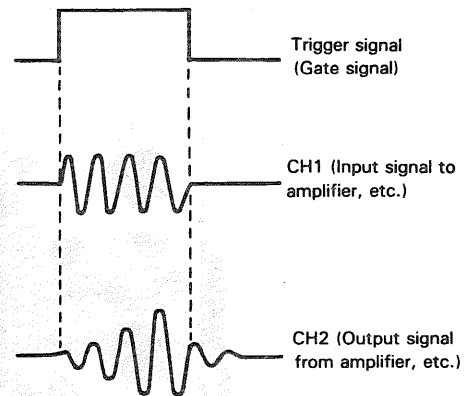

Fig. 6
When the SOURCE selection is in EXT, the input signal at the EXT TRIG ⑰ jack becomes the trigger. This signal must have a time or frequency relationship to the signal being observed to synchronize the display. External sync is preferred for waveform observation in many applications. For example, Fig. 6 shows that the sweep circuit is driven by the gate signal when the gate signal in the burst signal is applied to the EXT TRIG jack. Fig. 6 also shows the input/output signals, where the burst signal generated from the signal is applied to the instrument under test. Thus, accurate triggering can be achieved without regard to the in-